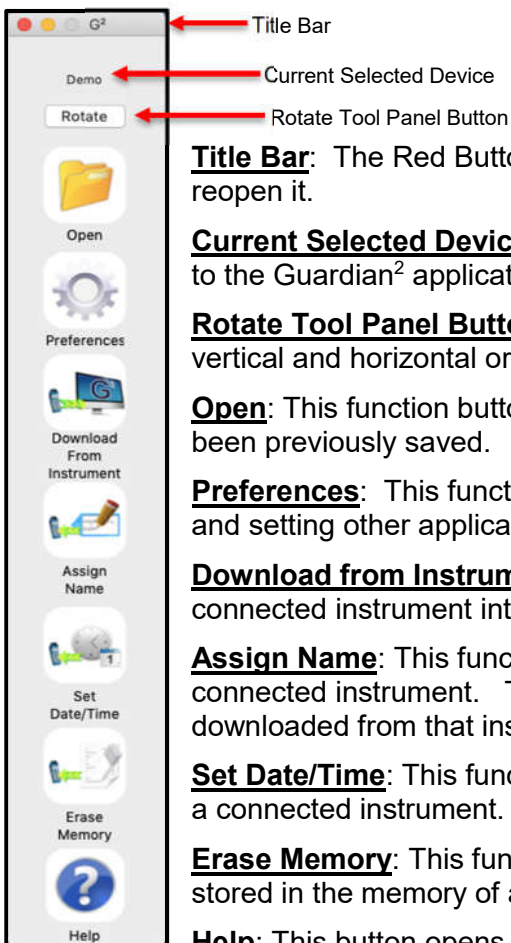
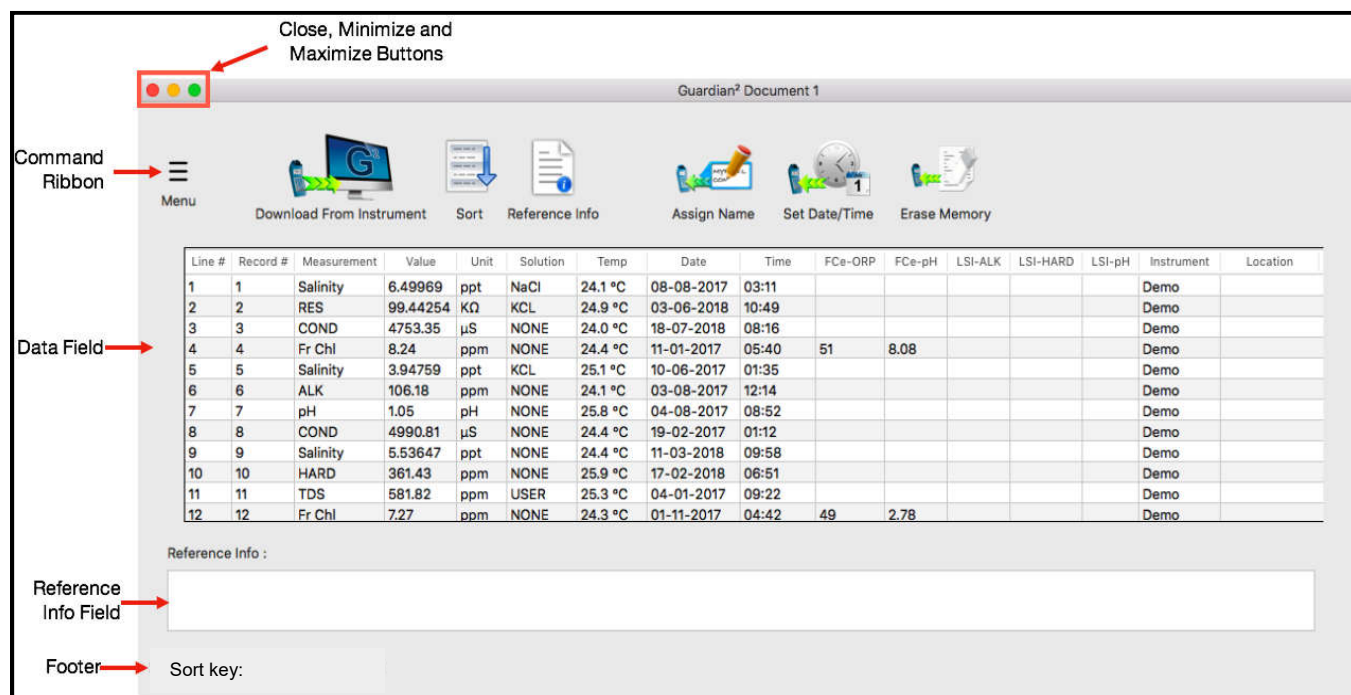

Figure 2
Figure 11
The Guardian² application work area (Figure 2 and Figure 11) includes:
- A Reference Info Field (Figure 11)
- A Footer (Figure 11)
The Guardian² Tool Panel contains dedicated buttons for activating various functions and features. The Panel may be displayed Vertically (Figure 2) or Horizontally (Default) (Figure 3).